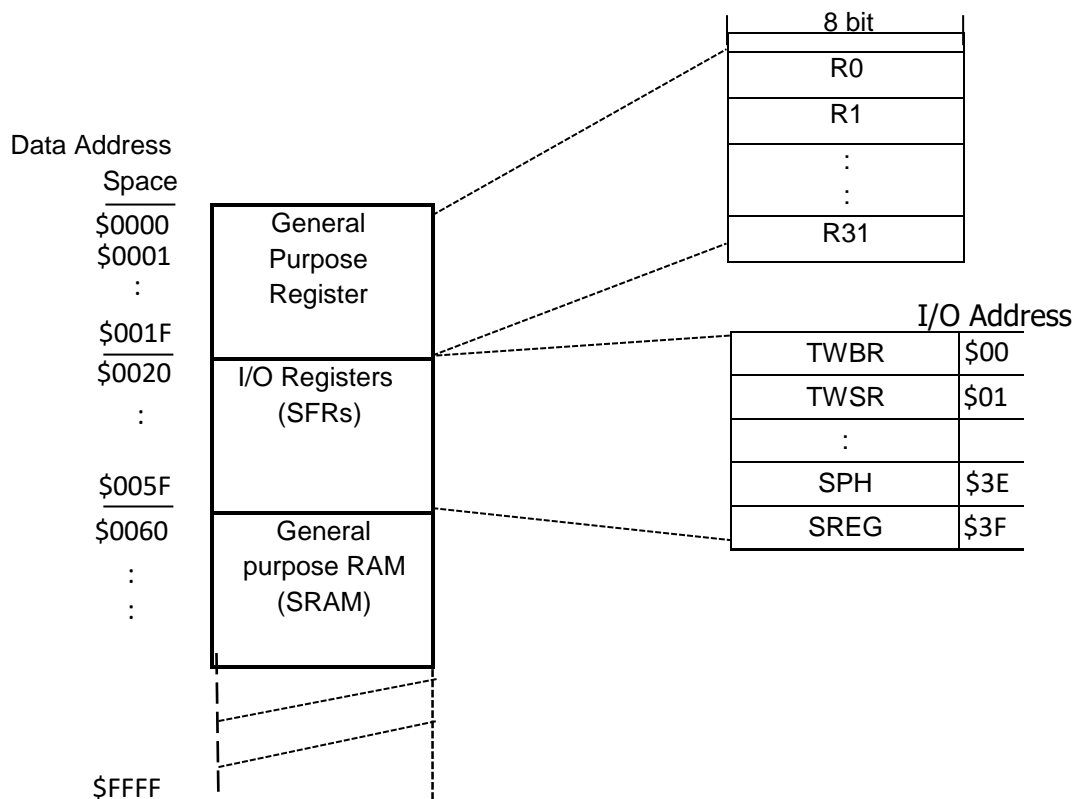

Fig. 1.6: The Data Memory for AVRs with No Extended I/O Memory
- Each location of the SRAM can be **accessed directly by its addresses**. See Fig. 1.6